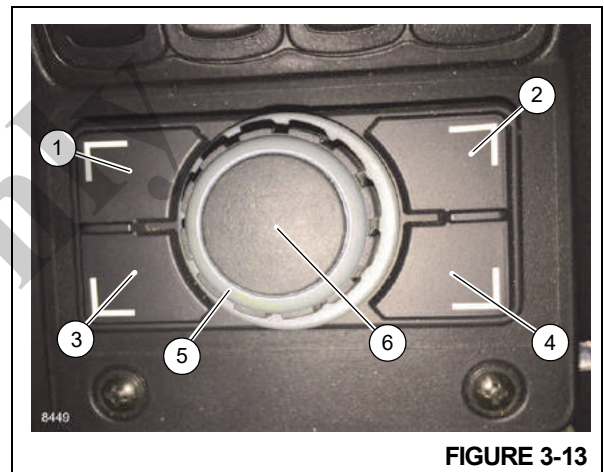

FIGURE 3-13
The Jog Dial operates the CCS identically to buttons on the display console, providing easier access for the operator. Rotating the jog dial performs the same function as navigation arrow buttons on the display console. The icon in the lower left corner of the display screen reminds the operator which display is being controlled by the jog dial at that time. The Screen Toggle Button (4) (Figure 3-13) is used to switch screens. The tab button can also be used to temporarily silence audible alarms. Other buttons operate differently depending on area, screen, and menu.
The main screen (below) appears on the operating display (lower screen) when the key is turned on. The main screen displays the crane system status. The amber lit icons are enabled. It also displays data from codes on other screens. The operator can choose and activate areas from this screen. The Escape Button (1) (Figure 3-13) defaults back to the main screen.
When menu button on the jog dial (3) (Figure 3-13) or control panel of the CCS is pressed, an overview of menu groups displays.
For choosing options during rigging. This is the only function where the menu button (3) (Figure 3-13) will not automatically navigate directly to the menu screen. It must be selected and chosen with the menu icon on the lower left of this screen
Press Escape button (1) (Figure 3-13) to leave menu and return to CCS main screen. The operator can now navigate to the RCL screen.
Press OK/Enter button on display or jog dial (6) (Figure 3-13) to exit outrigger screen.